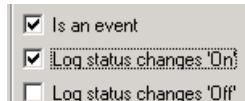

Figure 19. Event Generated Only When State Changes from Off to On
- Checking **Log status changes 'On'** and NOT checking **Log status changes 'Off'** will result in events only when the state changes from Off to On (rising edge), Figure 19.